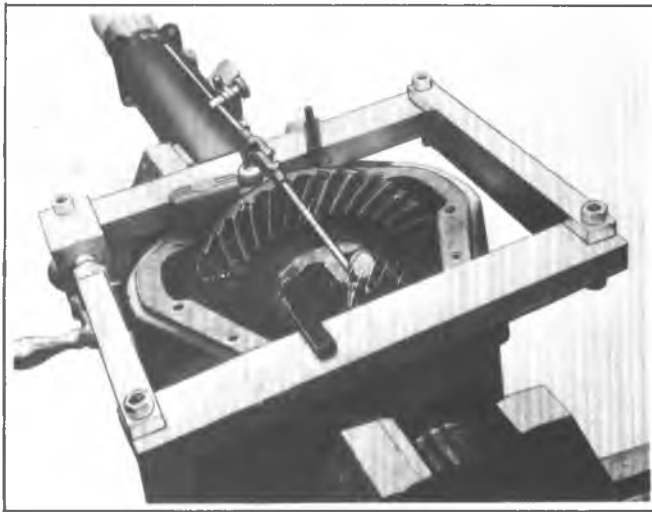

Fig. 2F--Spreading the Carrier
7. Using spreader tool J-24385, and a dial indicator as shown in figure 2F, spread carrier a maximum of .015 inch.